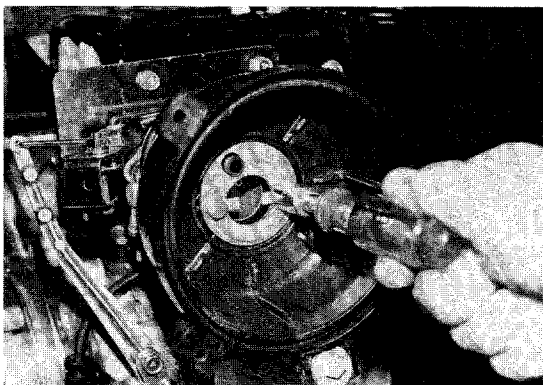

Figure 6-9
15. Bend locking tabs away from bolts and remove two bolts mounting air filter housing to carburetor. Remove air filter housing (**Figure 6-9**).